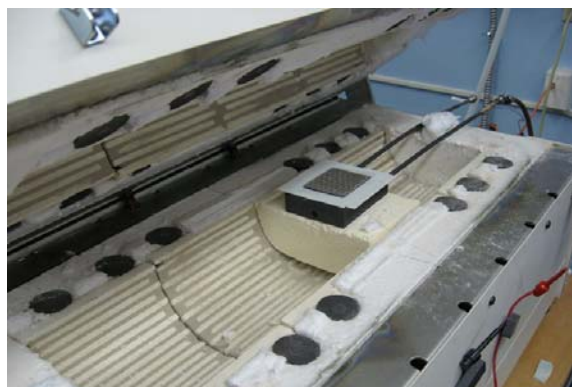

Figure 13
14. Place the anode manifold with cell into the furnace. (Figure 13)